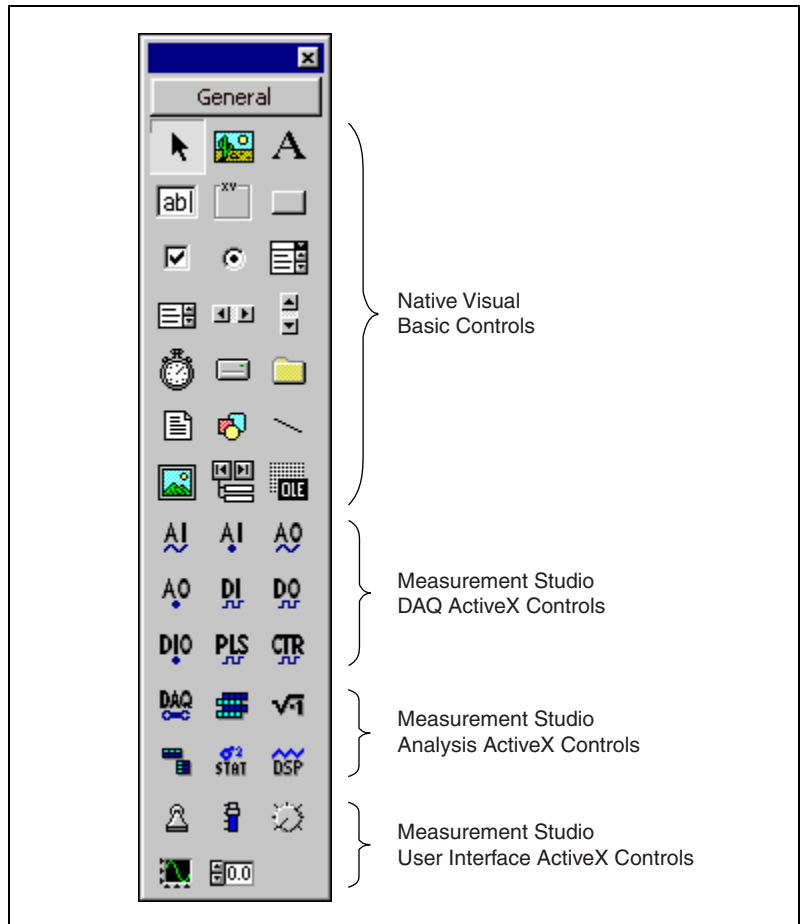

Figure 3-1. Load the Measurement Studio ActiveX Controls into the Toolbox
- Click **OK**. Visual Basic loads the Measurement Studio controls into the Toolbox, as shown in Figure 3-1.